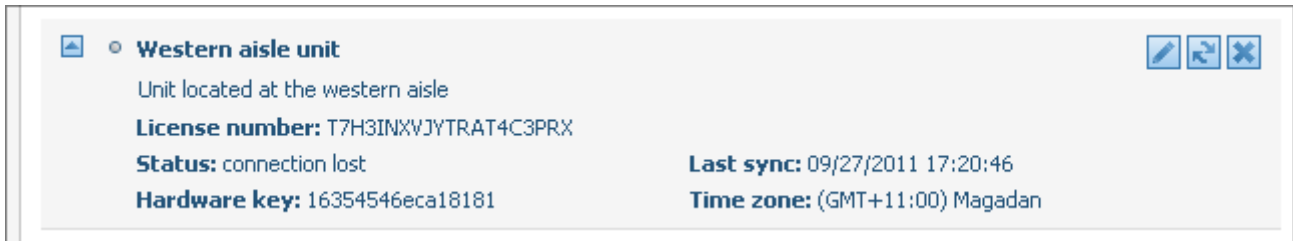

Figure 72: unit's details.
2. Information provided for each Measuring Unit in the expanded view (Figure 72) includes: